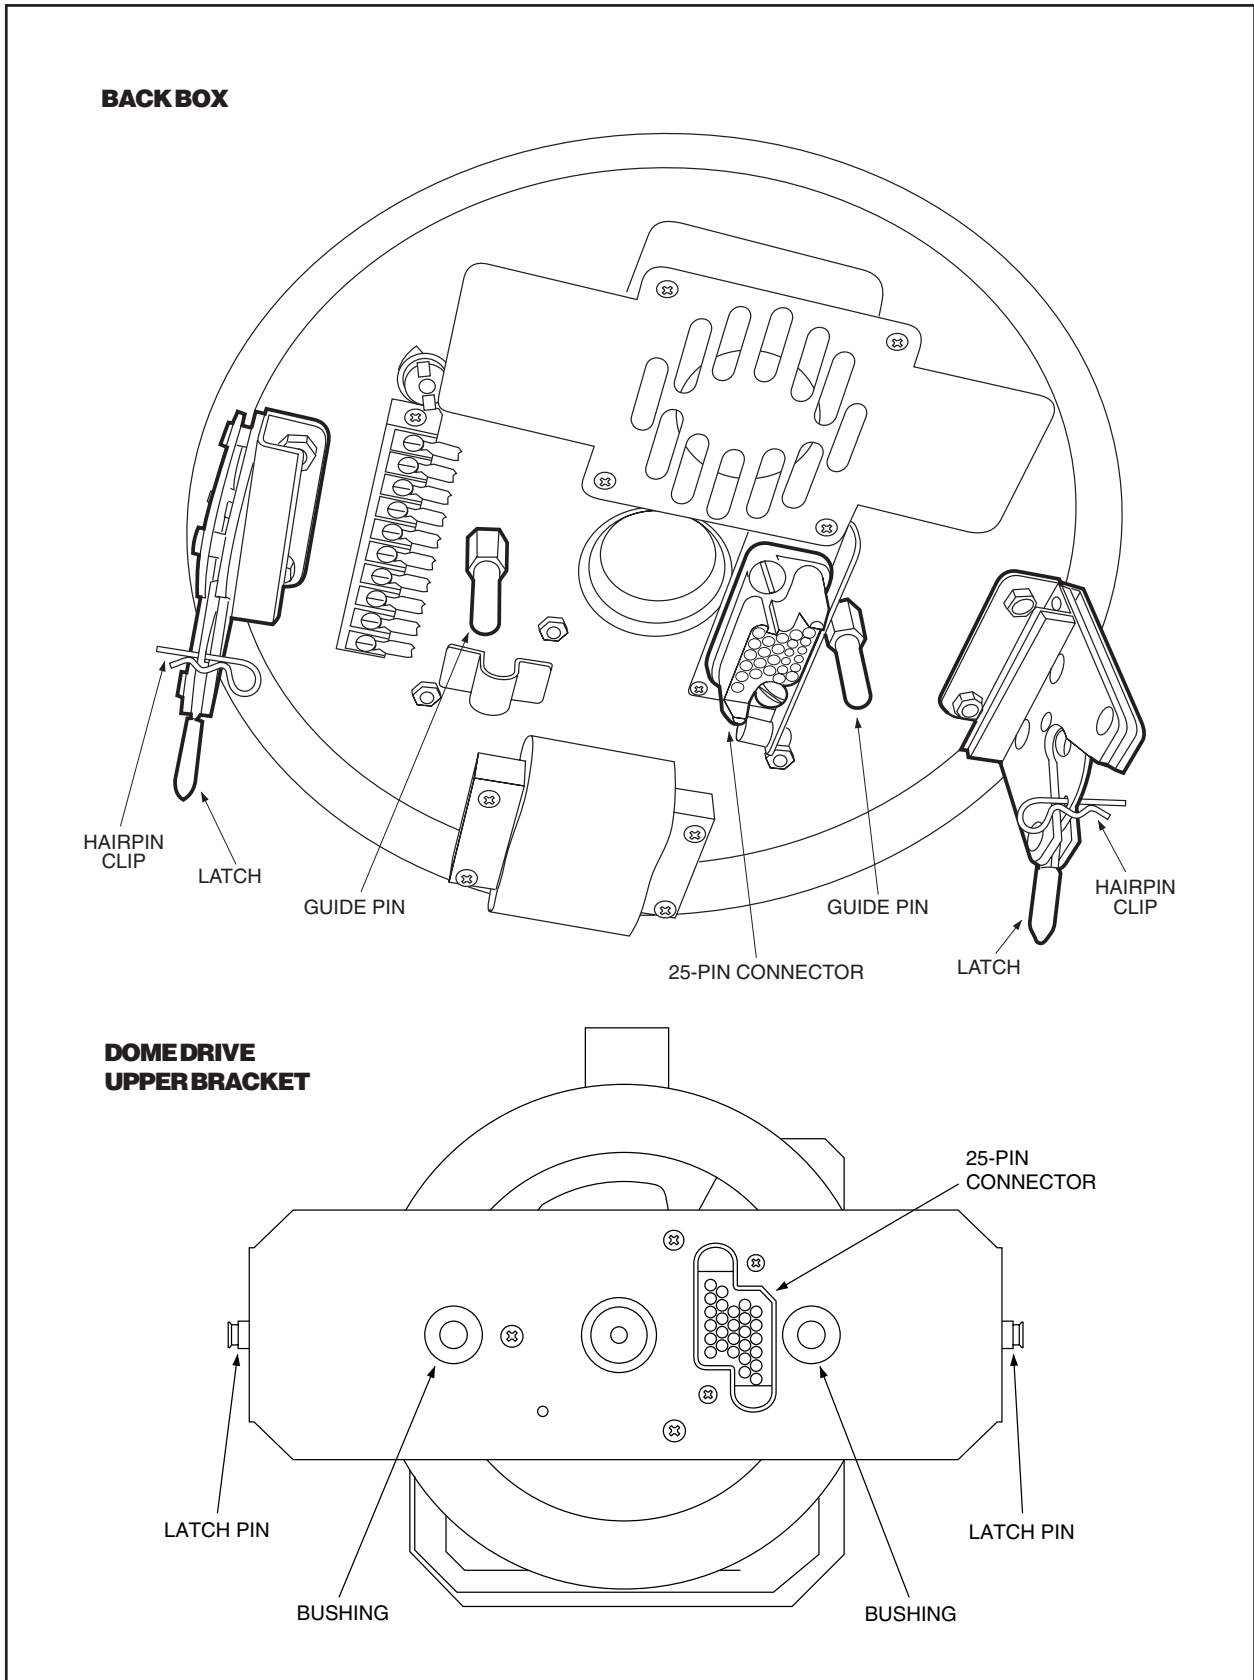

Figure 1. Back Box and Dome Drive Components
4. Remove the hairpin clips from the two latches inside the back box (refer to Figure 1) and open the latches.
- a. Refer to Figure 1 and line up the upper bracket on the dome drive so that: